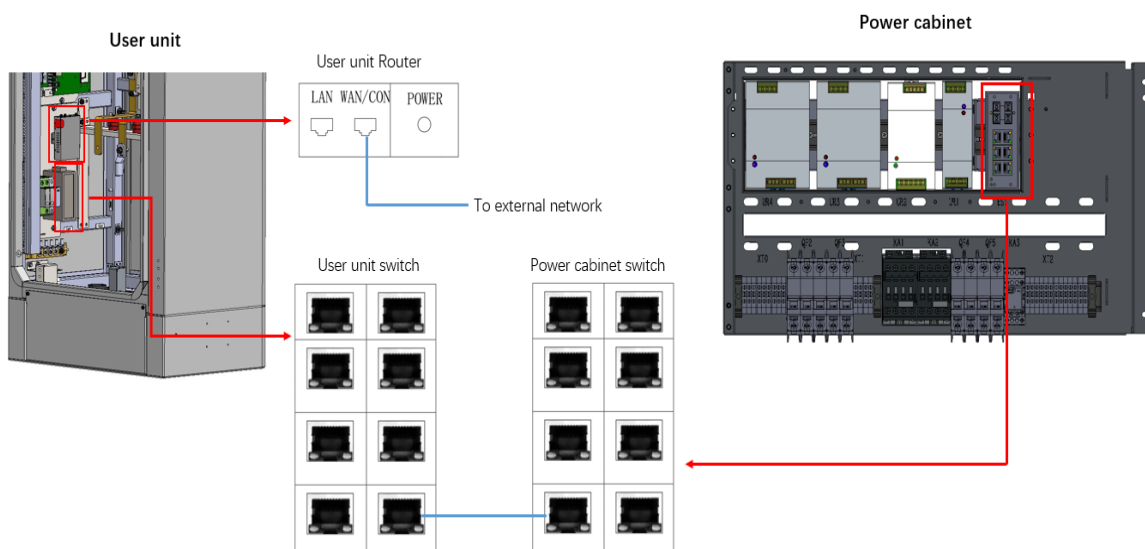

Figure 26 Schematic diagram of network cable connection of single power cabinet system
(4) Connection of network: Connect the switch in the power cabinet to the switch in the user unit with a network cable, crimp the laid network cable with RJ45 connectors, and insert them into the network port of the switch in the power cabinet and the network port of the switch in the user unit respectively, as shown in Figure 26;